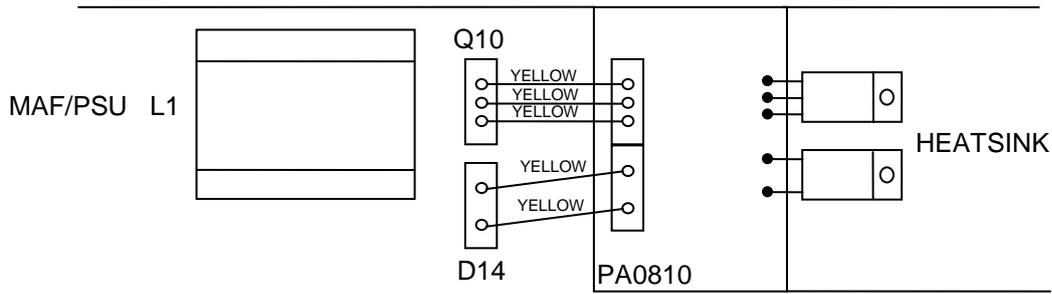

FIG 4
- Step 14. Connect the flying leads from the 6A MAF/PSU into the circuit board on the heatsink. The top wire connects into top location on the heatsink PCB and continues in the same order working down. See Figure 4. Cable tie the 5 wires together near the centre.